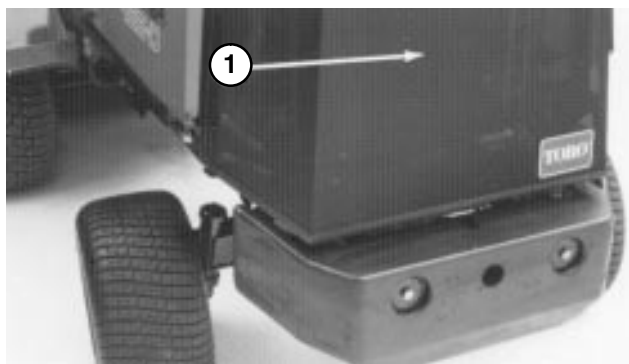

Figure 42
ENGINE COOLING SYSTEM (Fig. 42–43)
B. Unscrew knobs and remove rear screen (Fig. 42). Clean screen thoroughly.